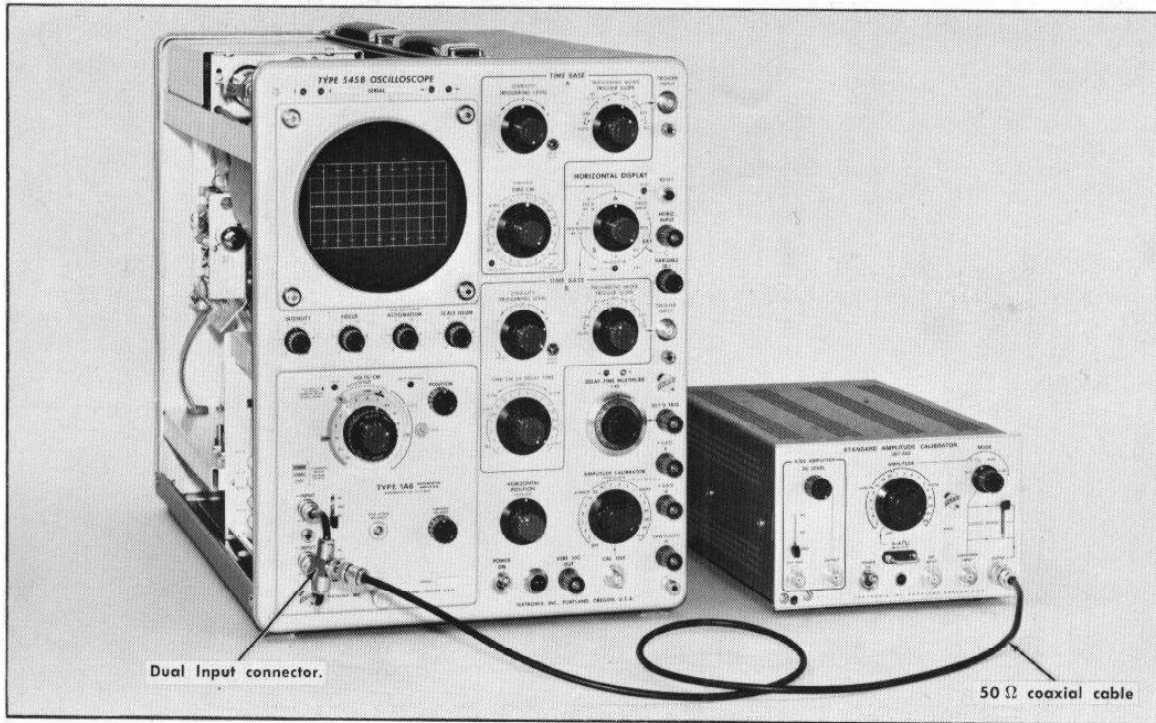

Fig. 6-7. Equipment setup for step 7.
7. Adjust DC Balance of the Input Attenuators ①
- a. Equipment setup is given in Fig. 6-7.